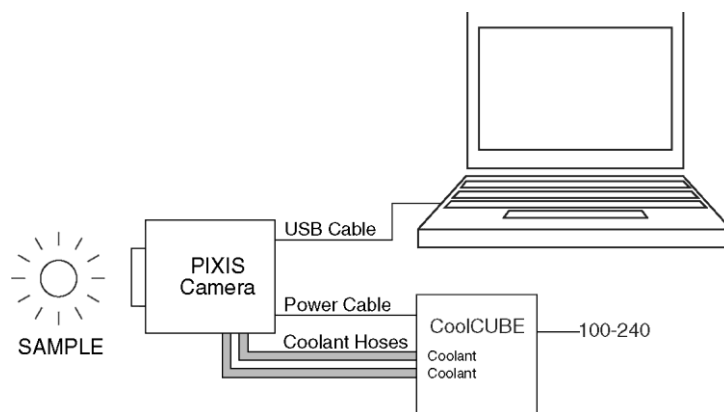

Figure 4. Typical Imaging Experiment Layout (Liquid-cooled Camera with CoolCUBE)
1. On the **Select Components** dialog box (see Figure 4), click on the **AUTO PCI** button to install the required drivers (the Princeton Instruments USB drivers) and the most commonly installed program files. Select the **Custom** button if you would like to choose among the available program files or do not want to install the drivers.